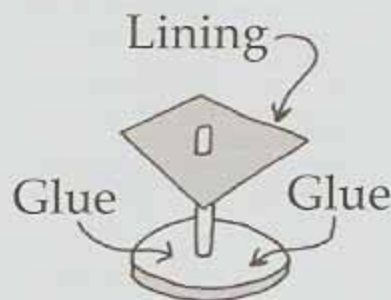

Fig. 15
4. Thread the earring post through the hole on the wrong side of the lining and join the glued earring pad to the lining (see Figure 15).